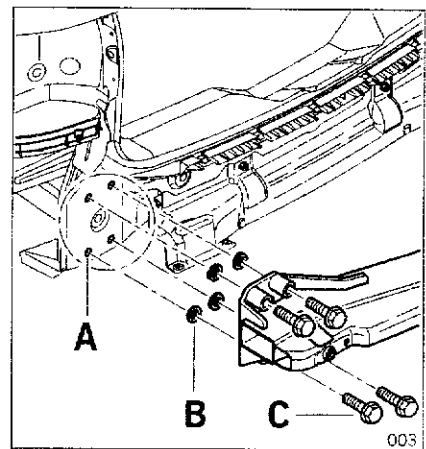

Figure 3
The screw thread and the contact surfaces (A in Figure 3) for the receiver must be checked and cleaned if necessary.
- 2.2 Secure receiver and mount M14 x 1.4 x 100 (Figure 3, Item C) on the right and left.